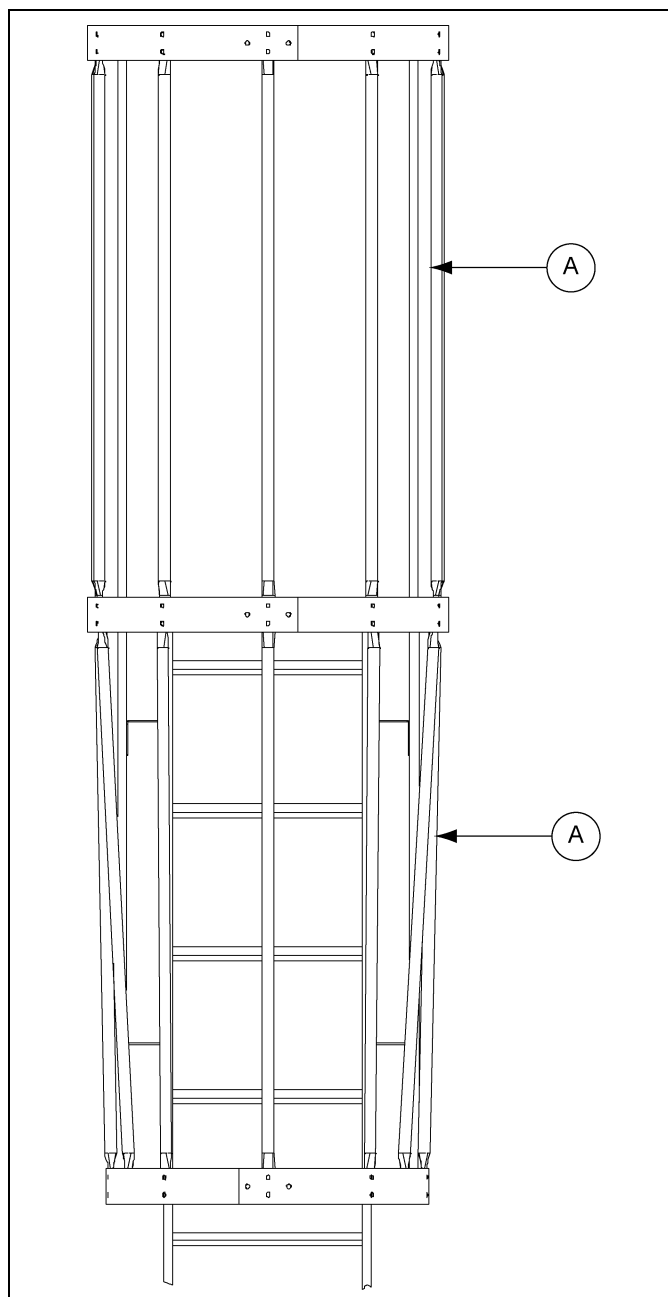

Figure 10F
After all three (3) hoop assemblies are in place, attach the 48" vertical supports from hoop assembly to hoop assembly as shown in Figure 10F. This requires fourteen (14) supports, seven (7) between each set of hoops. The second set of vertical supports must be bent at the flat area to allow for the tapering of the bottom hoop assembly. Use 5/16" x 1" bolts with the head of the bolt to the inside of the safety cage.